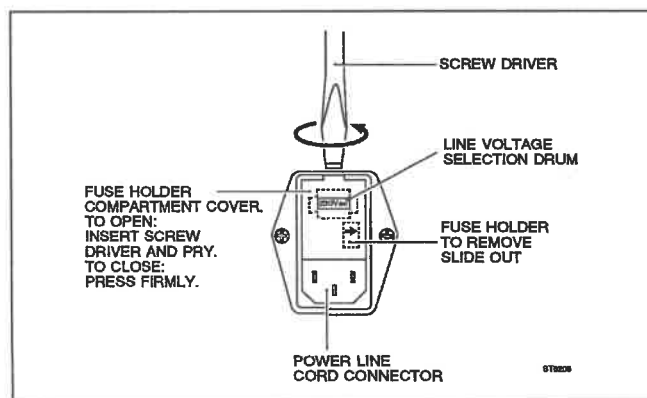

Fig. 3.1 Line voltage setting and line fuse replacement.
Before connecting the PM2530 to the line power, make sure that the instrument is set to the local mains voltage (115 V or 230 V nominal). Refer to the power line cord connector at the rear of the instrument (Fig. 3.1).
To change the line voltage setting (located at the rear of the instrument), proceed as follows (refer to Fig. 3.1):
The line fuse holder is located in the line input socket, on the rear panel. To replace the fuse, proceed as follows (see Fig. 3.1):
- remove the fuse holder with the fuse as shown in Fig. 3.1.